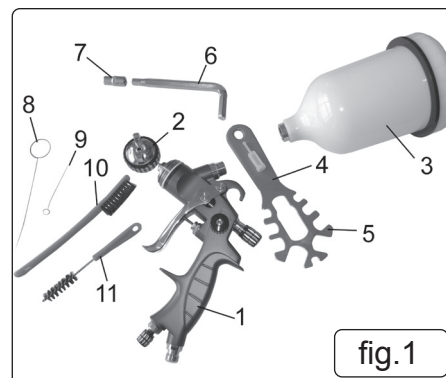

fig.1
- 5.3. Ensure the strainer, item 4 fig.1, is inserted into the gun port with the stem outermost for easy removal.